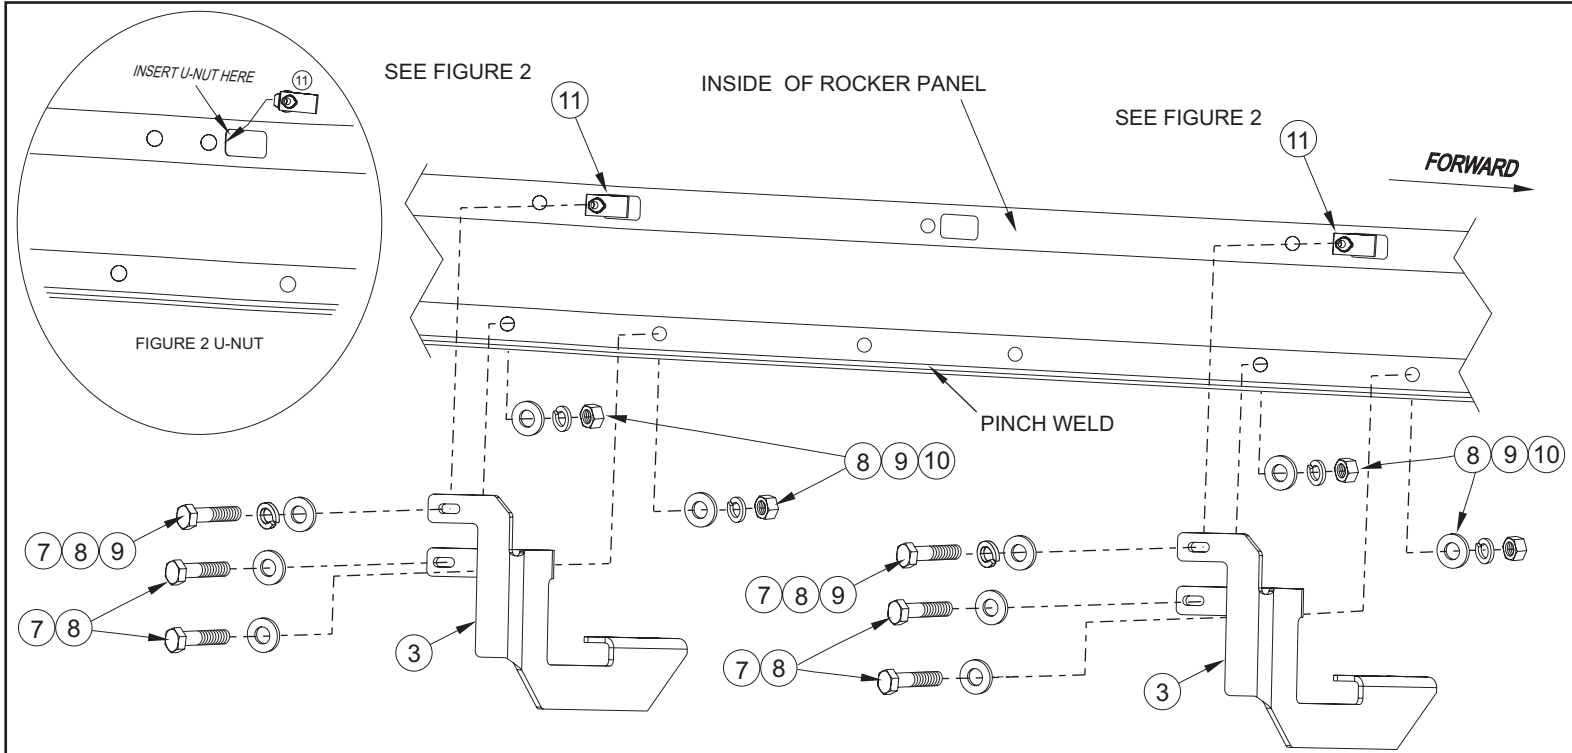

FIGURE 1 INSTALLATION VIEW OF DRIVER SIDE SHOWN, PASSENGER SIDE OPPOSITE
STEP 3. Locate driver side mounting locations on vehicle. **SEE FIGURE 1.**
STEP 4. Attach brackets to underside of rocker panel as shown. Hand tighten. **SEE FIGURES 1 AND 2.**